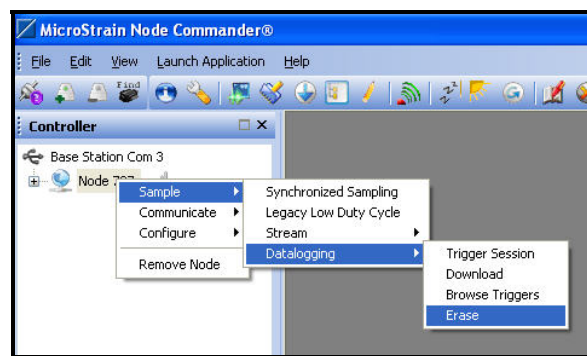

Figure 1 – Drop-down menu
- Click Erase as shown in *Figure 1*.